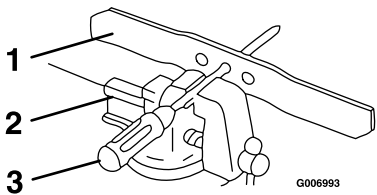

Figure 22
8. Check the balance of the blade by placing the center hole of the blade over a nail or screwdriver shank clamped horizontally in a vise (Figure 22). If either end of the blade rotates downward, file that end (not the cutting edge). The blade is properly balanced when neither end drops.